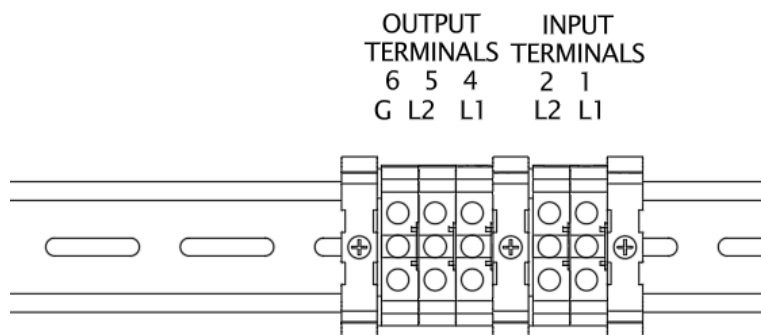

Figure 4: Terminal block array of 0.675 -1.35kW ELI
1. Connect input wires to appropriate input terminals according to **Figure 4**
2. Connect output wires to appropriate output terminals according to **Figure 4**
1. Connect input wires to appropriate input terminals according to **Figure 4**.
2. Connect Output wires to appropriate Output terminals to **Figure 4**.